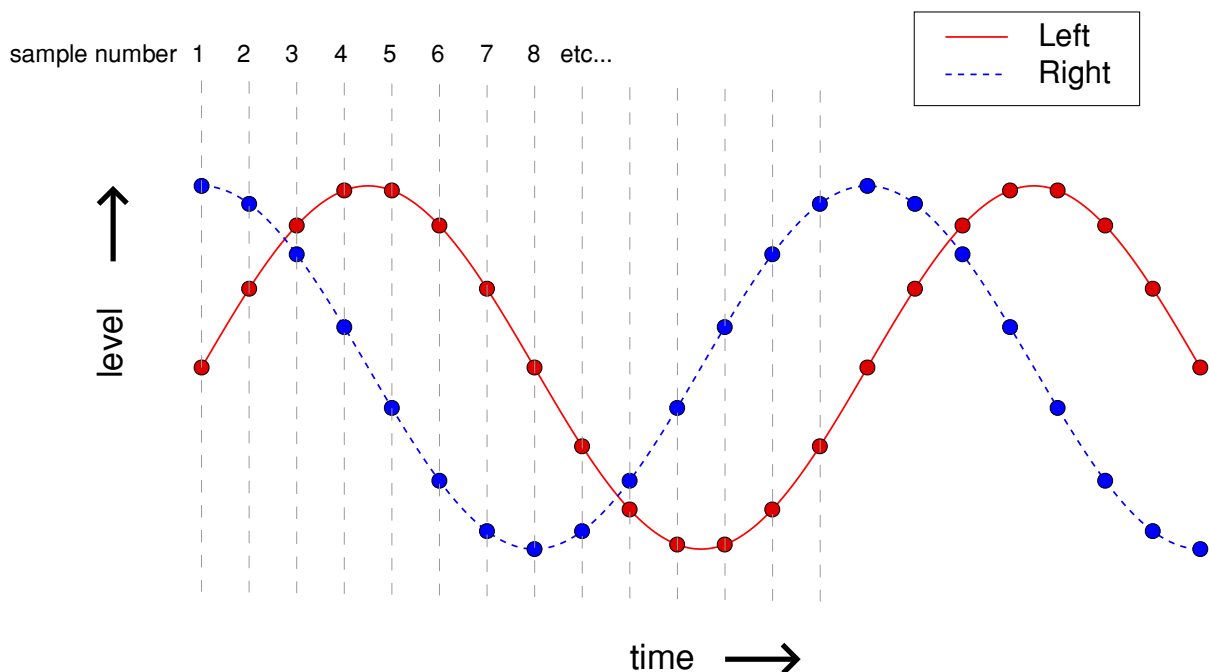
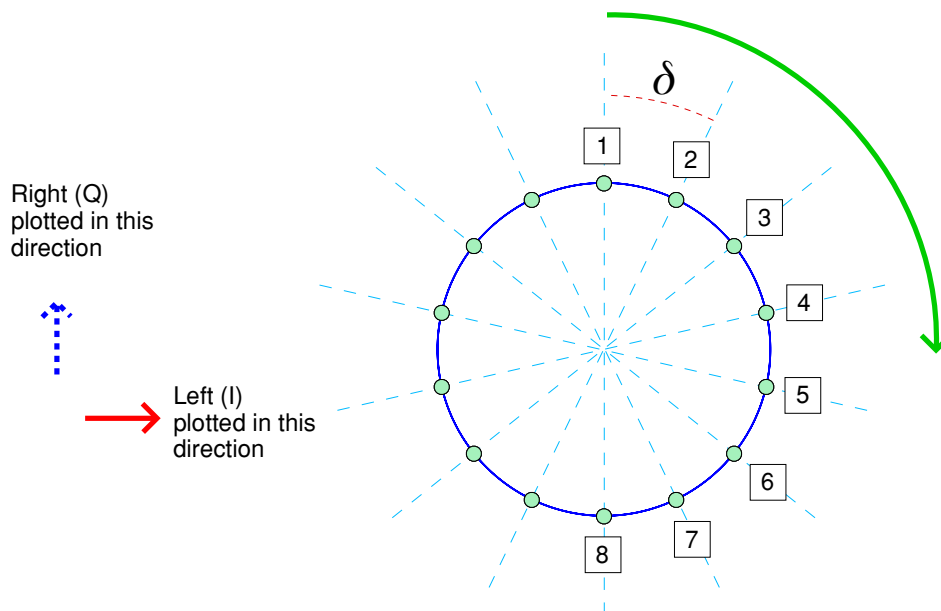

Figure 2 Left (I) and Right (Q) waveforms and sequence of samples
Figure 3 Left/Right sample pairs step around a circle
The trick is to use the left and right hand channels of the stereo signal to carry a related pair of waveforms – a sine and cosine wave of the same frequency and amplitude. This produces an IQ waveform like the example shown in Figure 2. You can think of the left and right pair of values at any instant as being the real and imaginary parts of a complex number. Communications engineers tend to think of them as the 'In phase' (I) and 'Quadrature' (Q) parts of the signal. The advantage of this approach is illustrated in Figure 3.